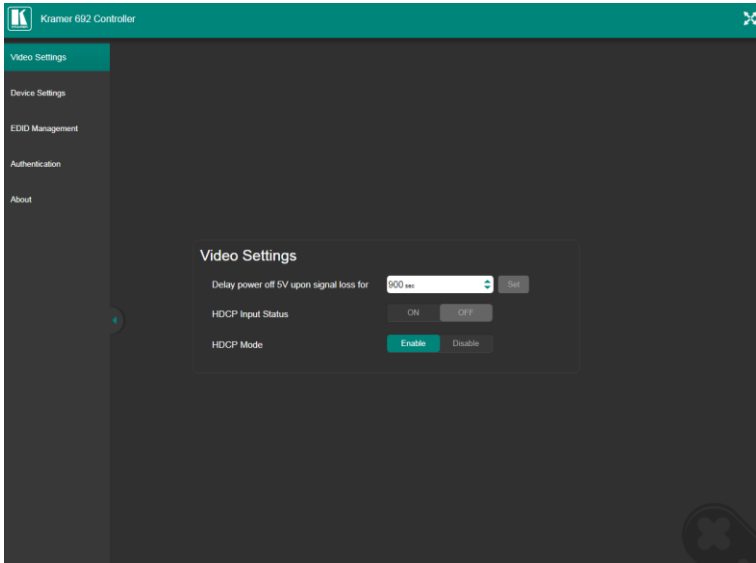

Figure 16: The Video Settings Page
1. In the Navigation pane, click **Video Settings**. The Video Settings page appears (see Figure 16).
- From the **Video Settings** page (see Figure 16):